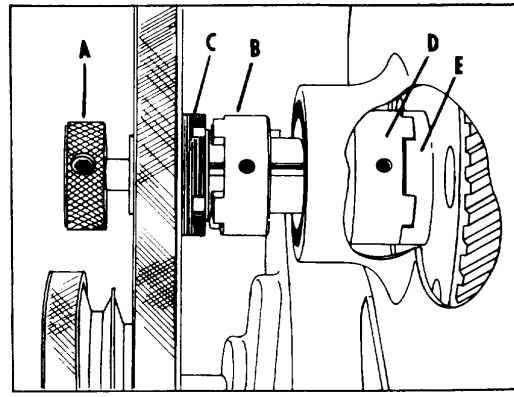

Fig. 20
Fig. 20 When using this machine for metal cutting (40, 60, 85, 115, 160, 220 and 335 FPM), the shifter knob (A) Fig. 20, is always pushed in all the way, disengaging the clutch (B) from the hub (C) of the pulley. An additional clutch (FC) is located inside the band saw and must be engaged with the hub (E) of the gear that transmits power through the gear box, as shown in Fig. 20. When pushing in on the shifter knob (A) Fig. 20, rotate the lower wheel of the band saw, and you will be able to feel when engagement occurs.